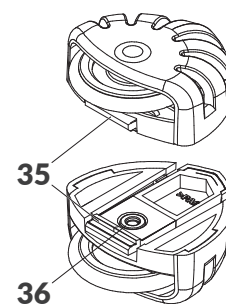

Fig. 7.
1. Press the catch **35** on the upper roll (see Fig. 7) toward the roll wheel and remove the roll from the printer body guide toward the nozzle plate. Leave the lower roll **3** in place.
1. Press the catch **35** on the upper roll (see **Fig. 7 on page 22**) toward the roll wheel and remove the roll from the printer body guide toward the nozzle plate.
1. Press the catch **35** on the upper roll (see **Fig. 7 on page 22**) toward the roll wheel and remove the roll from the printer body guide toward the nozzle plate. Remove the lower roll **3** in a similar way.